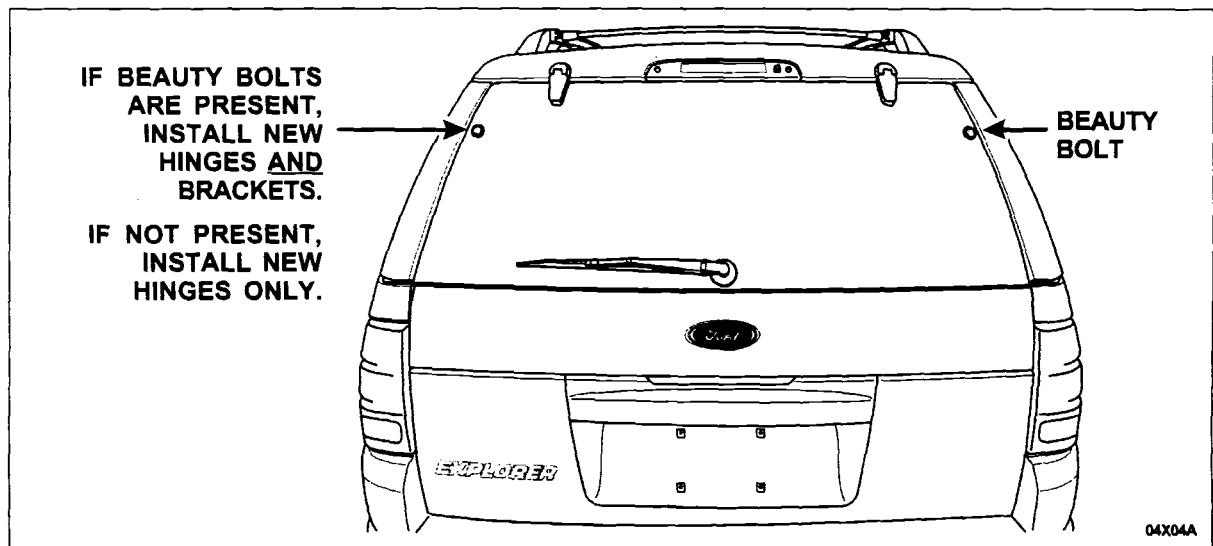

FIGURE 1
- Early 2002 models use ball stud brackets that are secured with beauty bolts, which pass through the glass (the head of the bolt is visible on the outside of the glass) and are bonded to the glass about 150 mm (6 inches) from the top of the glass. See Figure 1. If beauty bolts are present, both the liftgate ball stud brackets and hinges will be replaced. Perform **BOTH** the Liftgate Glass Hinge Replacement and the Ball Stud Bracket Replacement. Begin your repairs with LIFTGATE GLASS HINGE REPLACEMENT.